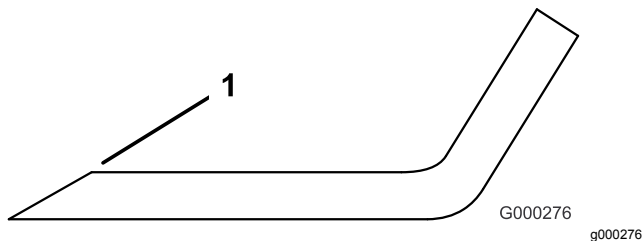

Figure 92
1. Use a file to sharpen the cutting edge at both ends of the blade (Figure 92).